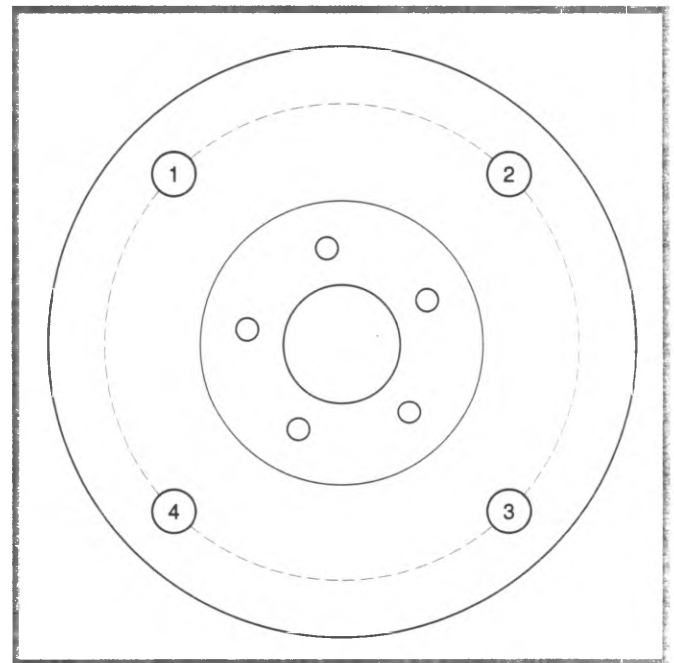

Figure 6-18, Measuring Rotor Thickness Variations
3. Measure rotor thickness at four or more points, equally spaced around the rotor, and record each measurement (figure 6-18).